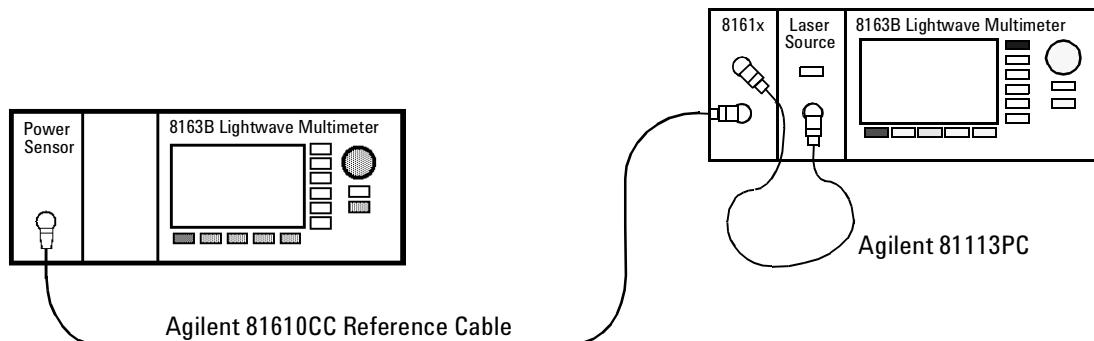

Figure 100 Power Transmitted through the Reference Cable - External Source
- 1** Making sure all the connectors are clean, set up the instrument as shown in Figure 100 if you are using an External Source.